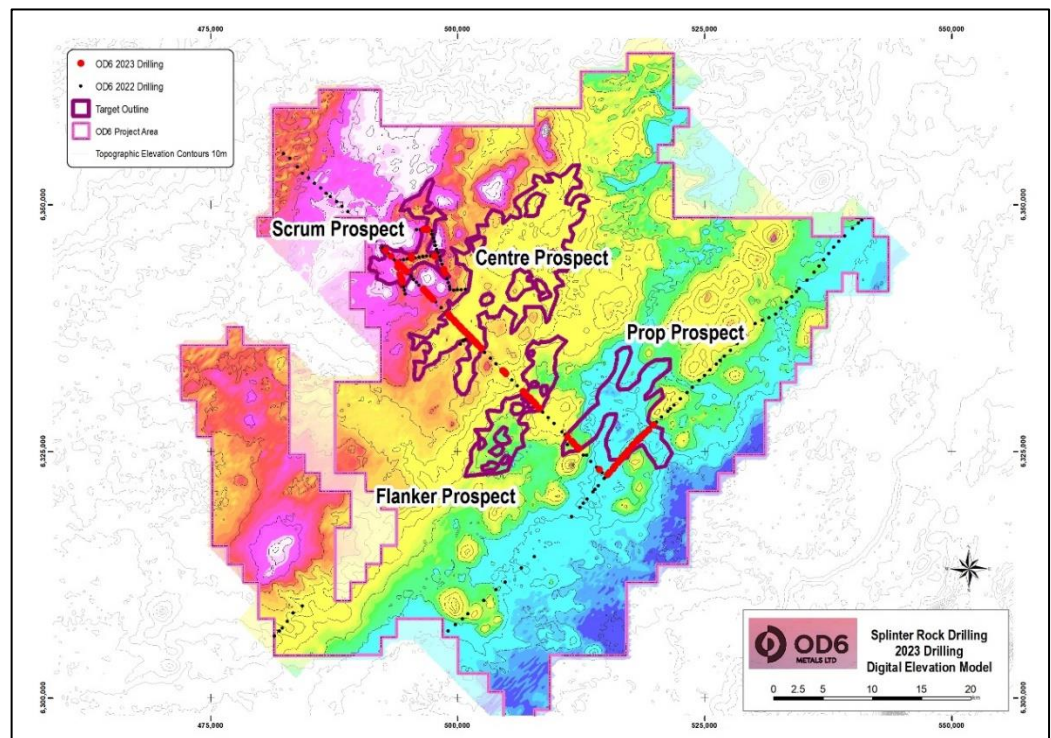

Figure 4: Splinter Rock elevation model showing highest points in white and lowest points in blue.
1. The significant **elevation change** called the "Ravensthorpe Ramp" may be a key exploration driver of potential clay types, deposition thickness, grade and REE recoveries. The elevation modelling allows identification of basins where granites, rich in rare earth elements (REE's) minerals, have been progressively weathered into clays and transported, through groundwater and chemical weathering, to be deposited in as accumulations in clay saprolite/sediment basins (refer Figure 4 and 5).
2. The **Booanya Granites** are described in Geoscience Australia's database as "heavily enriched in REE" and as such their locations may result in localised enrichment of REEs in the clay. Refer to Figure 4 below as to the location of current drilling in relation to the Booyana granites.